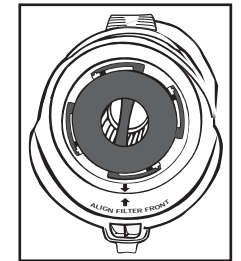

Fig.3/13
4. Return the filter back into Clean/Dirty Water Tank. To ensure a proper fit, make sure arrow on the filter is aligned with the arrow on Clean Water Tank Cap. Fig 3/12.